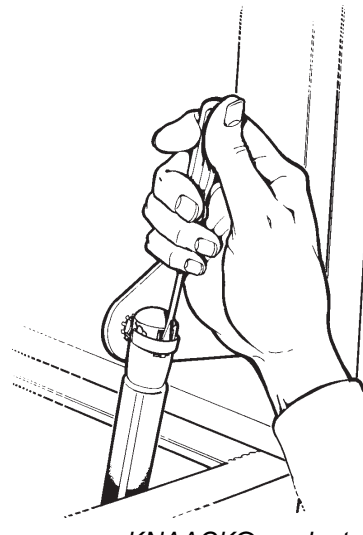

Figure 3.
3. To remove the Gas Spring from the cover ball stud, insert the screwdriver blade into the notch (*See Figure 2&3*) and under the spring clip. Pry the clip up (*Figure 3, Inset*) until the ball stud is released and pull the Spring away.